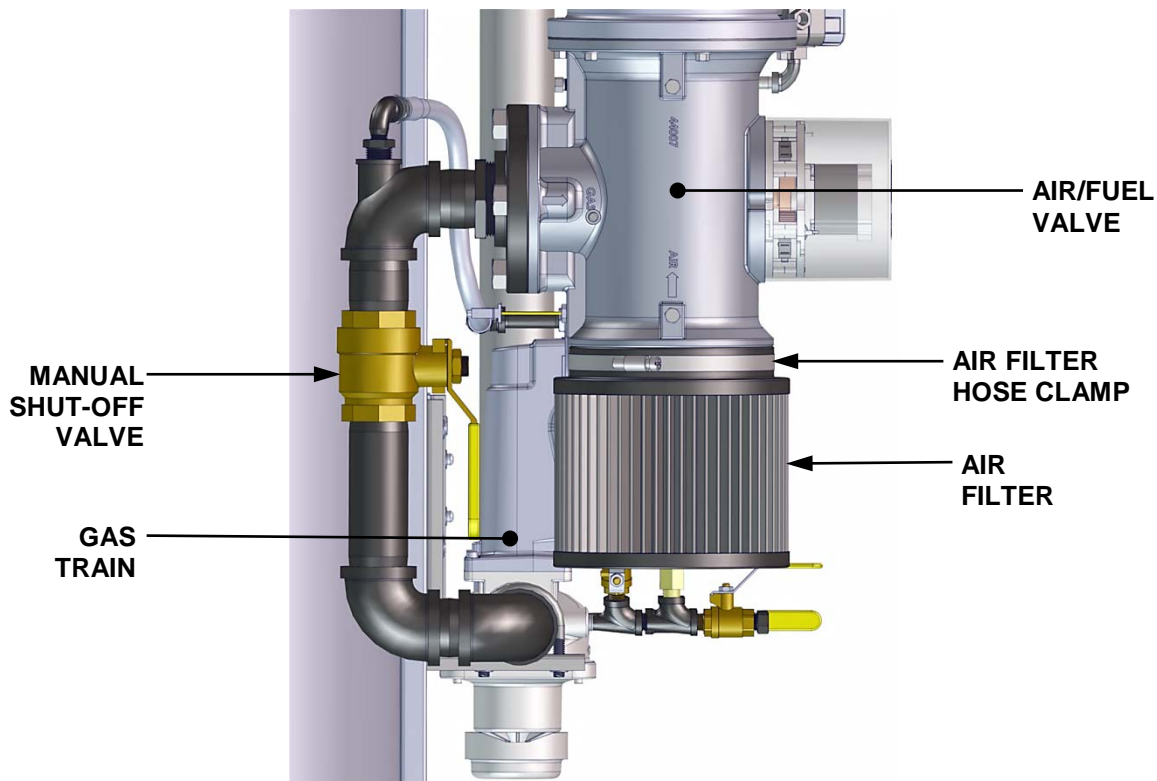

Figure 7-7: Air Filter Location
The Benchmark boiler is equipped with an air filter (part no. 88014) which should be cleaned and re-oiled every 12 months and replaced every 24 months. The air filter is located at the inlet of the air fuel valve at the top of the boiler as shown in Figure 7-7.
2. Remove the top shroud from the unit by grasping the top handle and lifting straight up. This will disengage the shroud from the four (4) pins in the side panels.
3. Refer to Figure 7-7 and locate the air filter attached to the air/fuel valve inlet.